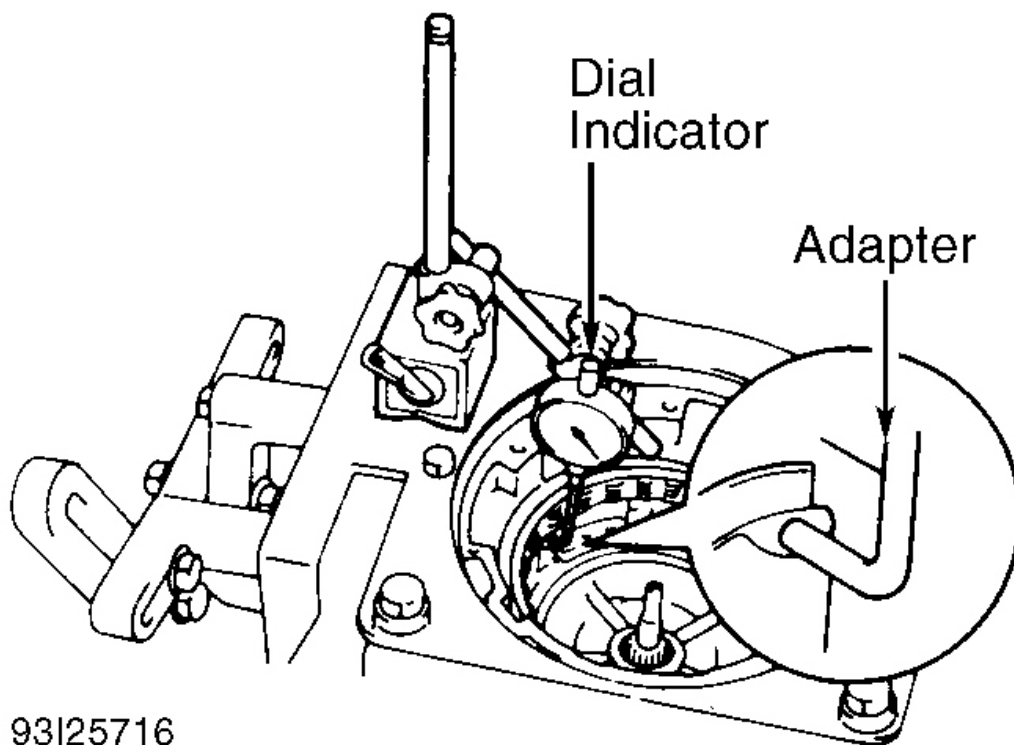

Fig. 15: Measuring OD Brake Piston Stroke (1 Of 2)
7. Check OD brake piston stroke. Install dial indicator on OD brake piston. Measure stroke by applying 57-114 psi (4-8 kg/cm²) compressed air to opening in case. See **Fig. 15**. Piston stroke should be .055-.067" (1.40-1.70 mm). If piston stroke is not within specifications, inspect discs.